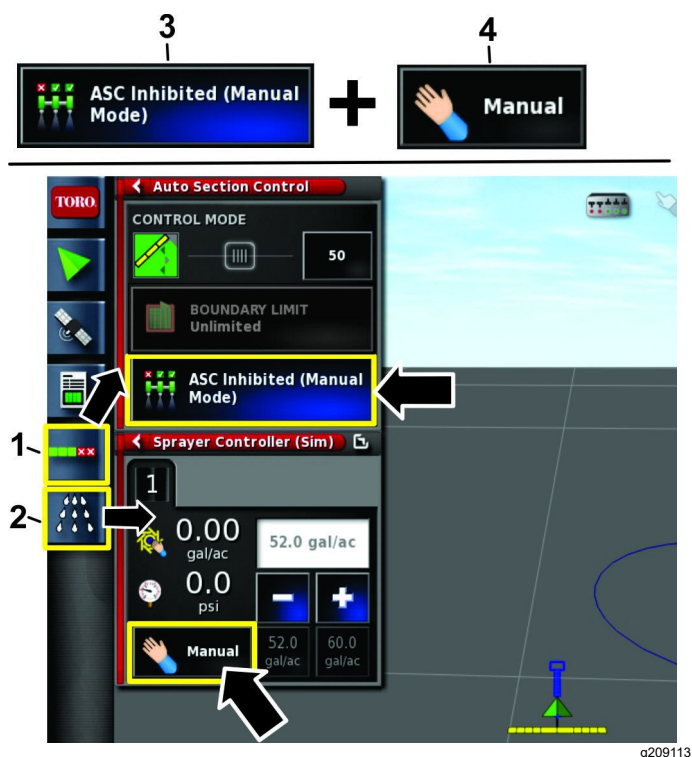

Figure 114
1. Press the auto-selection control-configuration icon and the sprayer-controller icon (Figure 114).
2. Press the rate control to the MANUAL position (Figure 114).